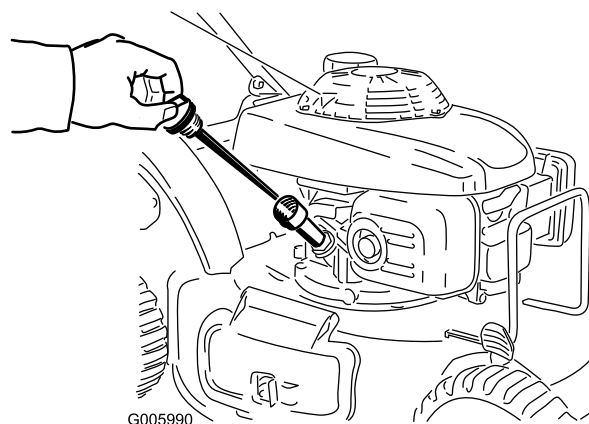

Figure 12
1. Remove the dipstick (Figure 12).
2. **Slowly** pour oil into the oil fill tube, periodically checking the level with the dipstick, until the dipstick indicates that the engine is full as illustrated in Figure 12. **Do not overfill.** (Max. fill: 20 oz. (0.55 l), **type:** SAE 30 detergent oil with an API service classification of SH, SJ, SL, or higher.)